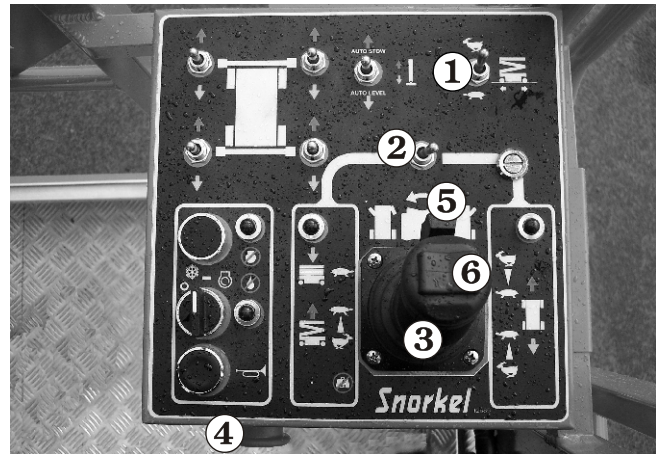

Figure 8.18
2. Set the **Speed** switch **1** to turtle (slow) (see Figure 8.18) if you are going to be driving close to other objects or need to move the SR very slowly for other reasons.
3. Set the **Lift/Drive Selector** switch **2** to drive (right) (see Figure 8.18).
4. Squeeze and hold the **Safety Control** **5** against the Joystick Controller **3** (see Figure 8.18).
5. Push the Joystick Controller **3** (see Figure 8.18) slowly forward or pull it slowly backward, depending on which way you want to go. The further you move the joystick the faster the SR moves.
6. To make a right or left turn, press and hold the **Steering** rocker-switch **6** on top of the Joystick Controller **3** (see Figure 8.18).